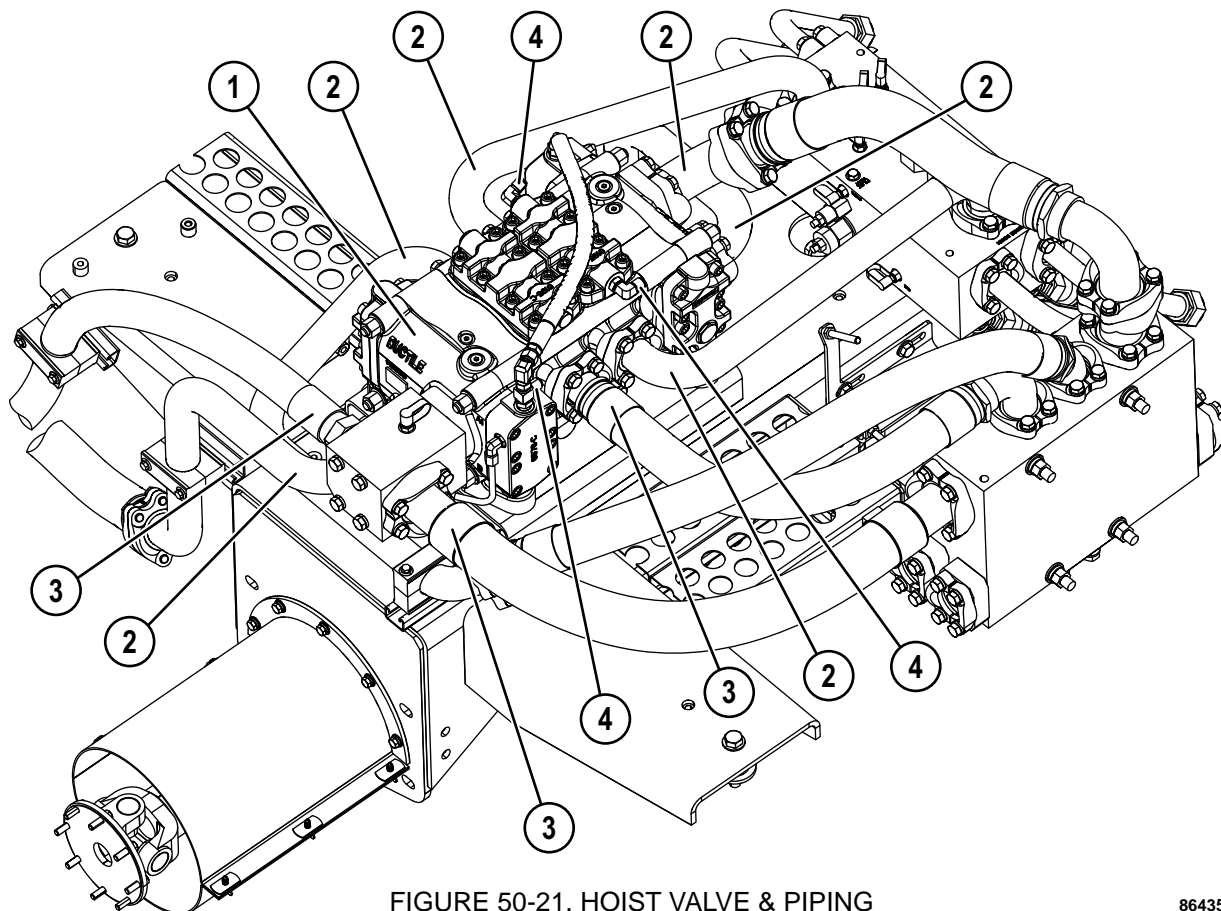

FIGURE 50-21. HOIST VALVE & PIPING
4. Install piston (3) onto rod (1). Secure the piston to rod with locknut (4) Tighten the locknut to **3 390 N·m (2,500 ft lb)**.
5. Coat the piston and the rod with clean hydraulic oil, then carefully install the rod, piston and gland assembly into cylinder housing (7, Figure 50-21). Ensure that the backup ring and O-ring on gland (5) are not damaged during installation.
6. Install four short capscrews (1), two long capscrews (2) and flat washers (3). Tighten the capscrews evenly to standard torque.
3. Thoroughly clean the exterior of hoist valve (1, Figure 50-21) and surrounding area carefully to help avoid contamination of hydraulic oil when the hoses are disconnected are opened..
4. Disconnect six hydraulic tubes (2) and three hydraulic hoses (3) at the hoist valve. Disconnect three hydraulic hoses from pilot hose fittings (4).